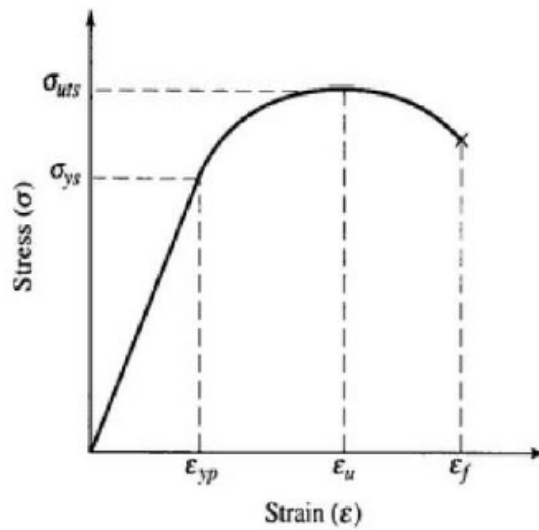

Fig. 7.117: Strain-Stress-Curve
- Young's modulus: The formulas shown above only work in the linear part of the *Strain-Stress-Curve*, which is shown in Fig. 7.117. In this area a constant factor between stress and strain exists.